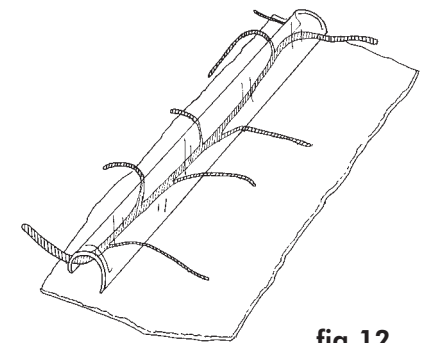

fig 12
4. Lay the connective tissue flat and place the tube on the top **fig 12**.